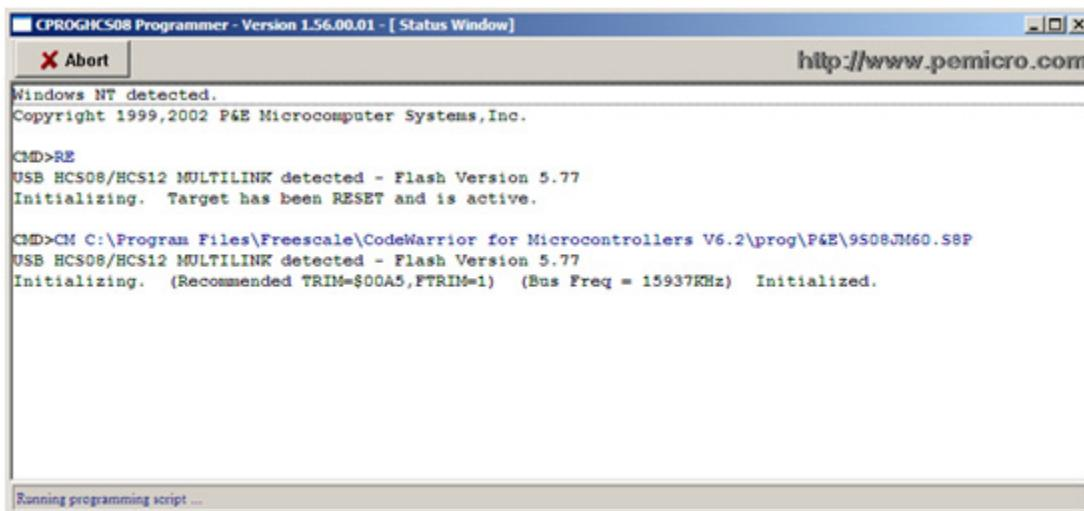

Figure A-13. Image Programmed in Flash
- The pop-up in Figure A-13 appears to erase and program the built image to the JM60 flash.